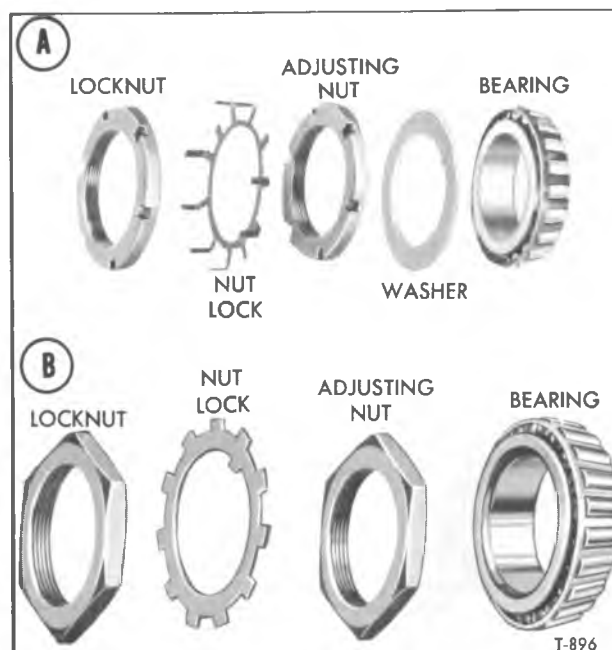

Figure 1—Rear Wheel Bearing Adjusting Nuts
5. Install bearing adjusting nut lock, referring to figure 1.
- a. If vehicle is equipped with type shown in View A, figure 1, align nearest slot in adjusting nut with short tang on nut lock and bend tang into slot on nut. Install lock nut with slots outward and tighten to torque listed in "Specifications." Then bend tangs of nut lock into slots in lock nut and adjusting nut.
- b. If vehicle is equipped with type shown in View B, figure 1, align flat on adjusting nut with nearest lip of nut lock. Make sure wheel turns freely; then install nut lock and lock nut. Tighten lock nut to torque listed in "Specifications." Bend one lip of nut lock over one flat on each nut.